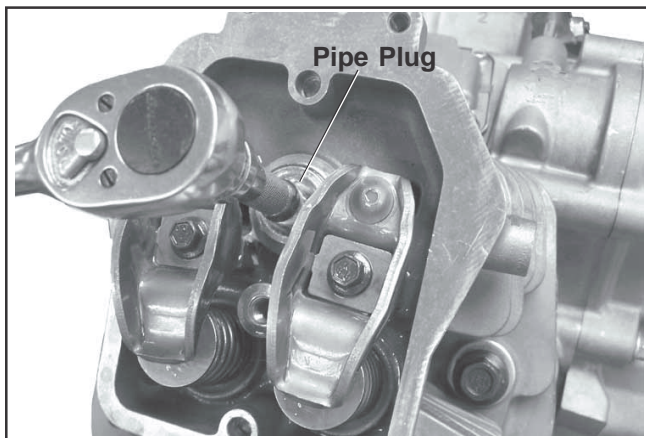

Figure 8-39. Removing Pipe Plug.
1. Remove the pipe plug from the cylinder head to access the screw in the upper center location. See Figure 8-39.